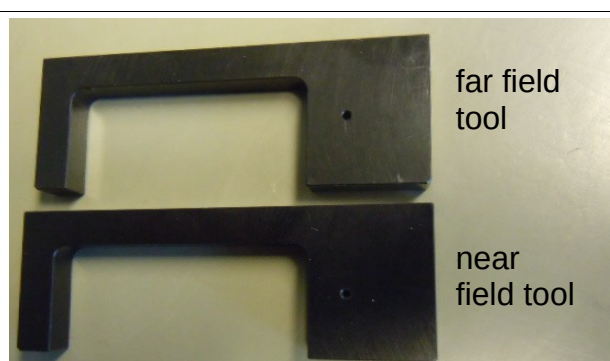

Figure 39:
- for the optical alignment you need a near field and a far field tool (Figure 39: )